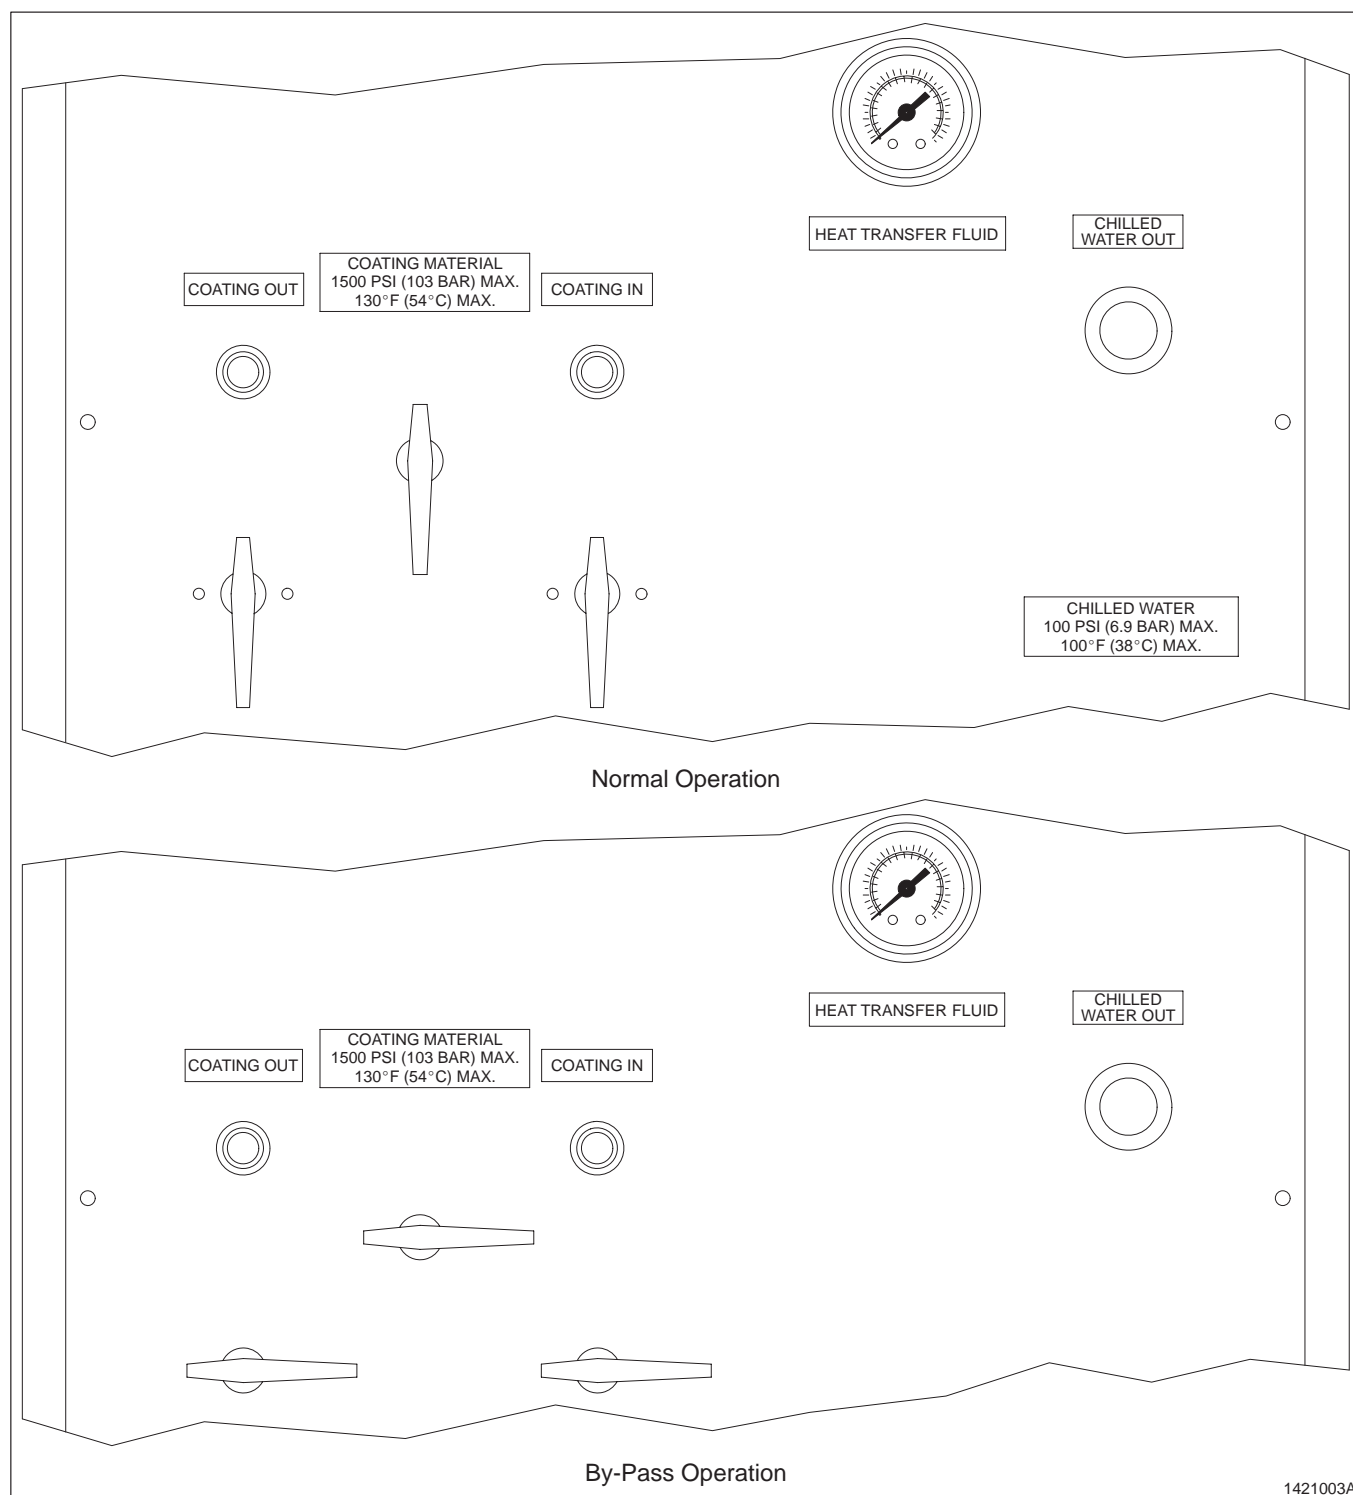

Fig. 3 Side panel, coating ball valve positions
LOW PRESSURE — Yellow indicator light. Indicates that the heat transfer fluid circulation pump pressure has fallen below pre-set limit of 1.4 bar (approximately 20 psi) (Fig. 3). Stops motor/pump, disables temperature controller.
3. See Figure 3. Check the coating ball valve positions on the side panel. Set to normal operating position.
4. Check the position of the ball valves for the desired operating position, normal or bypass. See Figures 3 and 4.